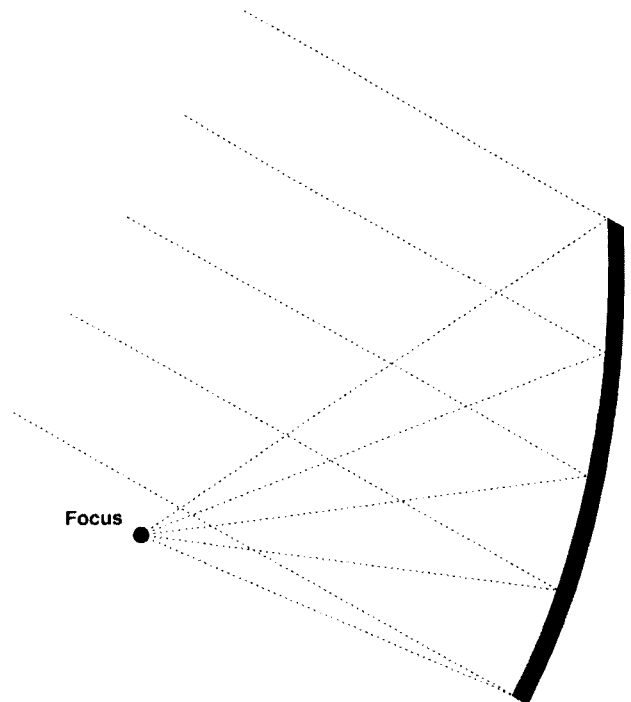

Fig 2—An offset-fed parabolic dish antenna aimed at a satellite.
2. An 18-inch DSS offset-fed dish at 10 GHz, with measured gain of 32.0 dB and efficiency of 63%. The spillover efficiency should be comparable, but with the offset dish pointing at a high elevation, as shown in Fig 2, far less of the spillover is illuminating warm Earth. If we estimate 20%, then 8 K is added to the 6 K of sky noise, for a total of 14 K. In a 500-Hz bandwidth, the noise output is -160 dBm.